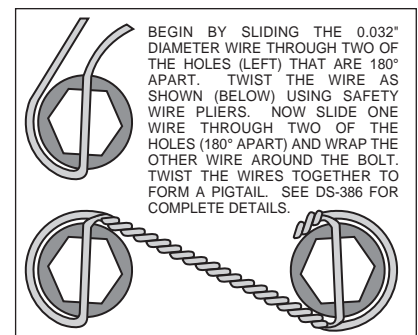

Figure 3. Safety Wire Diagram
•The caliper mounting bracket (1) should be installed first with clean, dry threads on the mounting bolts. **NOTE:** Caliper bracket provided has mount points to allow mounting to rear ends that use either 11.66" diameter or 10.51" diameter rotors. Mount point (A) is for rear ends with 11.66" OE rotors, mount point (B) is for rear ends with OE 10.51" rotors. Install the bracket (1) on the outboard side of the stock bracket by sliding bolt (2) from the inboard side of the hub assembly through washer (3) and the sleeve (4) which is inserted inside the existing OEM caliper mounting holes. Place two shim washers (16) between the hub and the caliper mounting bracket (1). The mounting bracket (1) must tighten squarely against the outboard side of the stock bracket face. Inspect for interference from casting irregularities, machining ridges, burrs, etc. Use two shims (16) between the mounting bracket (1) and stock bracket during initial trial fitting.
•With the larger I.D. side of the rotor (6) facing away from the hat (7), bolt rotor (6) to hat (7) through the backside of the rotor using washers (8), and bolts (9). Using an alternating sequence, apply red *Loctite*® 271 to the threads and torque bolts to 155 in-lb. For an added measure of security, the bolts may be safety wired using standard 0.032 inch diameter stainless steel safety wire as shown in Figure 3. Please refer to Wilwood's data sheet DS-386 for complete safety wire installation instructions.
•Slide the brake pads (15) up into the caliper (10) from the bottom until the "v" spring clip snaps into place against the anvil. They should install easily without interference.
•Lubricate caliper mounting studs and nuts with lightweight oil. Install two shims (14) over each stud (13) on the radial mount bracket (2). Slide the caliper (10) in place over the studs and rotor and install the washer (12) and lock nut (11) to hold the caliper in place. The caliper bleed screw should be pointing toward the rear of the vehicle. Snug the lock nuts (11) and check that the caliper (10) is centered over the rotor (6). Add or subtract .016" shims (5) and/or .030 shims (16) as necessary between the caliper mounting bracket (1) and the stock bracket to center the caliper (10) on the rotor (6).
•Check that the outside radius of the brake pad (15) is aligned with the outside diameter radius of the rotor face. Add or subtract shims (14) between the caliper (10) and caliper mounting bracket (1) to gain the proper alignment.
•Once all clearances have been checked, remove the wheel, caliper and rotor from the axle flange. Secure the caliper mounting bracket (1) to the spindle face while applying red *Loctite*® 271 on the bolt threads (2). Torque the bolts (2) to 35 ft-lbs.. Reinstall the rotor and again use several lug nuts to hold it in place. Reinstall the caliper, torque the caliper nuts (11) to 30 ft-lbs.